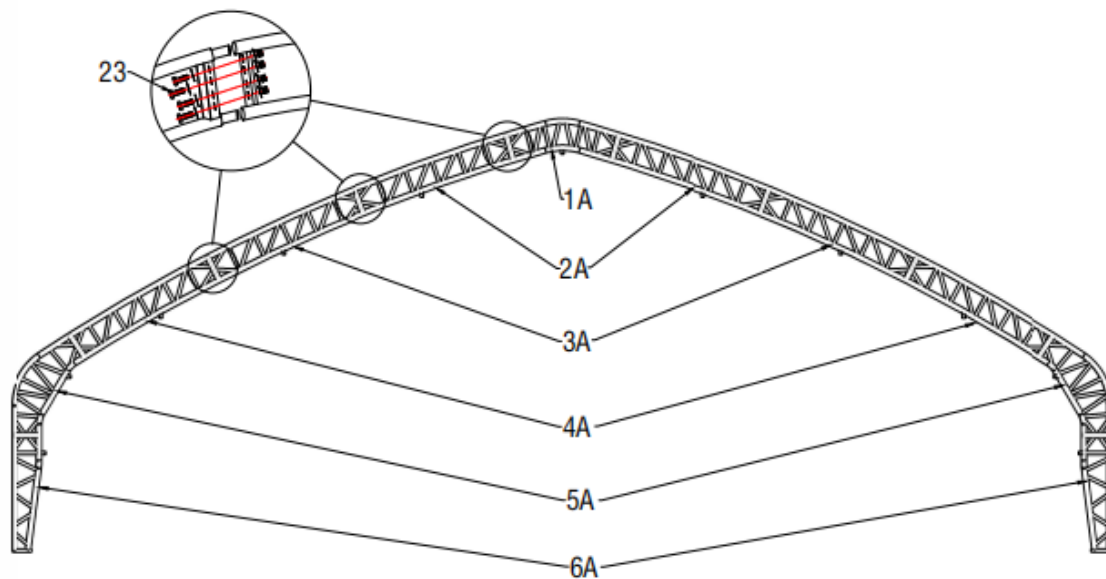

Figure 3
1. Figure 3 shows to connect the 1x top bent tube (No.1A), 2x upper bent tube (No.2A), 2x middle bent tube (No.3A), 2x lower bent tube (No.4A), 2x shoulder bent tube (No.5A) and 2x lower standing leg (No.6A) with screw M14x50 (No.23), which makes in the first arch. Do not install the bolts on top of the truss frame where the fabric will rest.